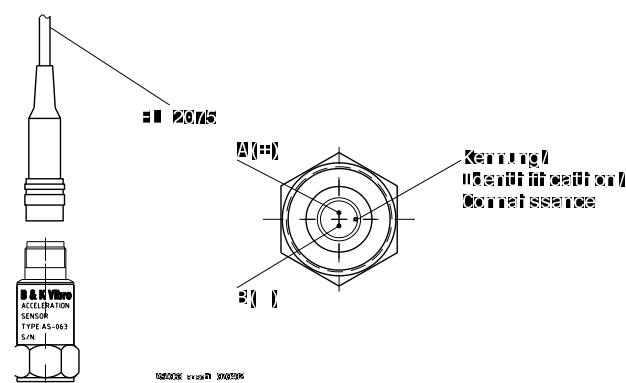

Figure7-1) Connector assignment ASA-063
- After attachment of the connecting cable at the sensor, the enclosed snap ring has to be pressed between union nut and plug housing of the cable (**Figure7-1**)